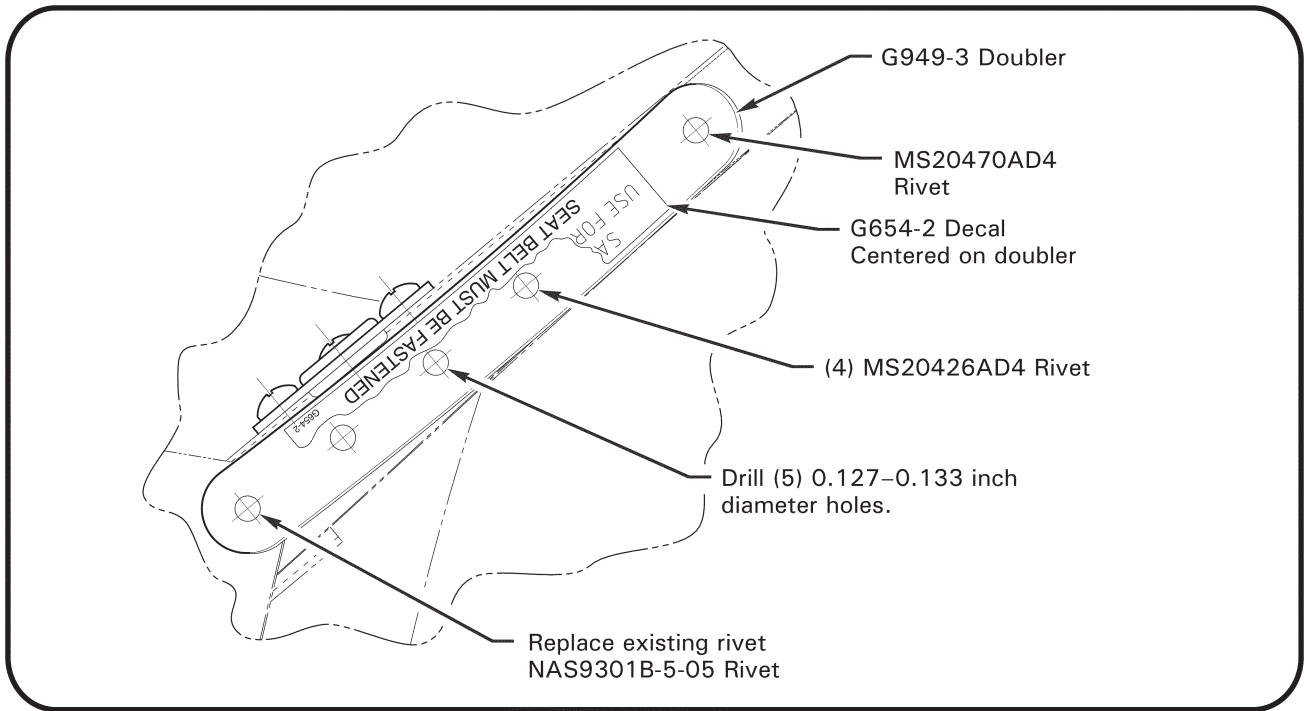

FIGURE 2 LH G494-3 Doubler inside cabin
2. Carefully separate headliner from roof only as necessary to access frame. Position G949-4 doubler inside frame as shown. Cleco in place and match drill (3) 0.127–0.133 inch diameter holes along roof thru G494-4 doubler. Remove clecos and G494-4 doubler.
3. Refer to Figure 2. Remove existing rivet indicated in figure. Using doubler as drill guide, progressively drill specified holes and install clecos. Remove doubler.
7. Refer to Figure 2. Cleco G949-3 doubler in position and install using NAS9301B-5-05 rivet, MS20470AD4-3.5 rivet, and (4) MS20426AD4-3.5 rivets as indicated in figure. Install G654-2 decal centered on G949-3 doubler.